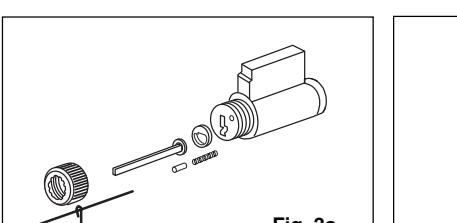

Fig. 3a
- b. Unscrew cap. Take pin, spring and tailpiece from cylinder and set aside. (Fig. 3a)